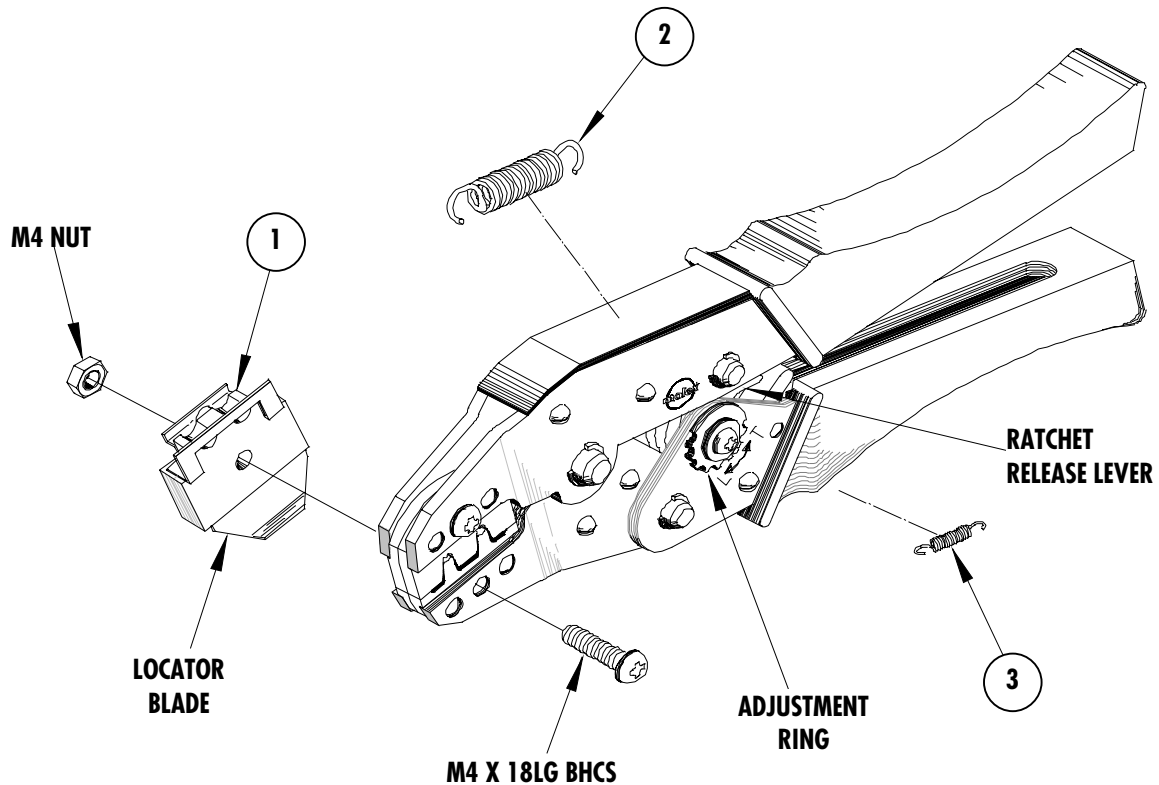

Figure 4
4. Close the tool until the ratchet releases, (See Figure 4).
Should this tool ever become stuck or jammed in a partially closed position, **Do Not force the handles open or closed.** The tool will open easily by lifting the ratchet release lever (See Figure 4).
## How To Adjust Tool Crimp Force (See Figure 4)